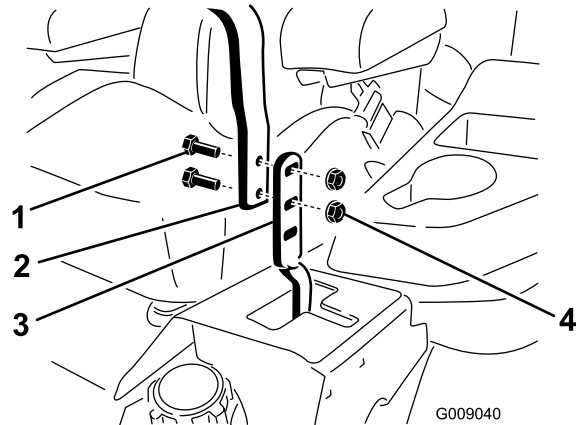

Figure 78
3. Loosen the bolts and flange nuts installed in the levers (Figure 78).
4. Align the levers in the front-to-rear position by bringing the levers together to the NEUTRAL position, slide them until they are aligned, and tighten the bolts (Figure 78).